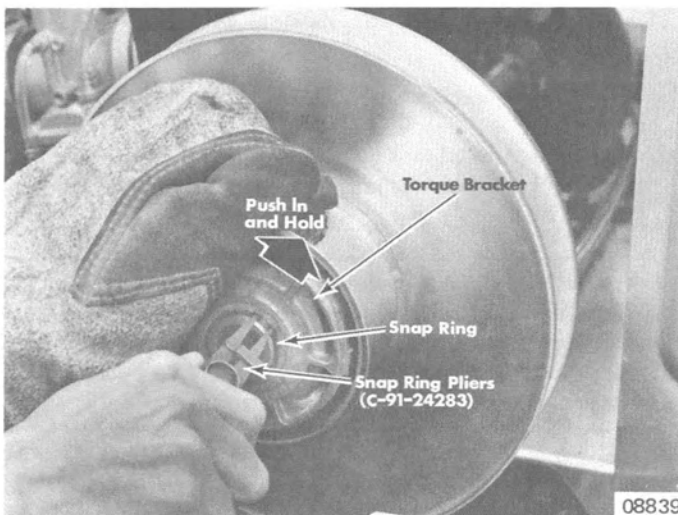

Figure 3. Removing Driven Sheave Torque Bracket
5. While one person applies snowmobile brake and rotates movable sheave so that torque bracket may be pressed in toward sheave, another person (wearing heavy protective gloves and safety glasses) must push torque bracket in approximately  $\frac{1}{4}$ " (6.4mm), then remove driven sheave snap ring from spindle. (Figure 3)